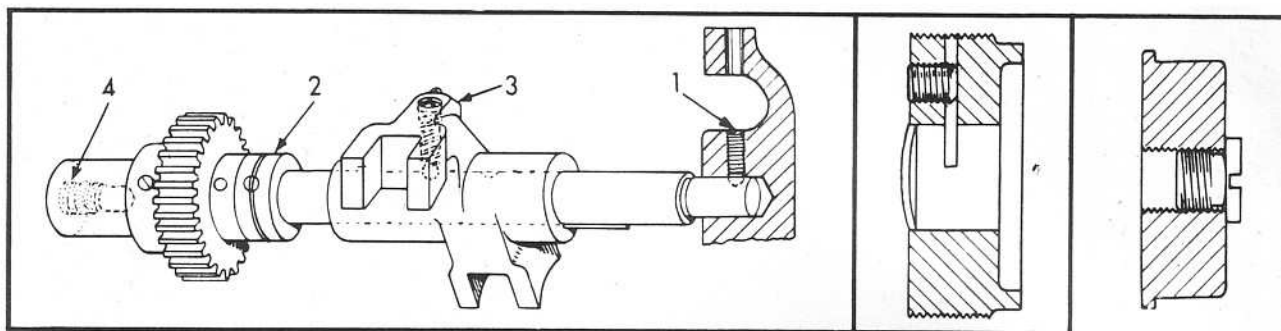

FIG. 20 Idler Shaft—
1. REMOVE IDLER SHAFT (See Fig. 20)